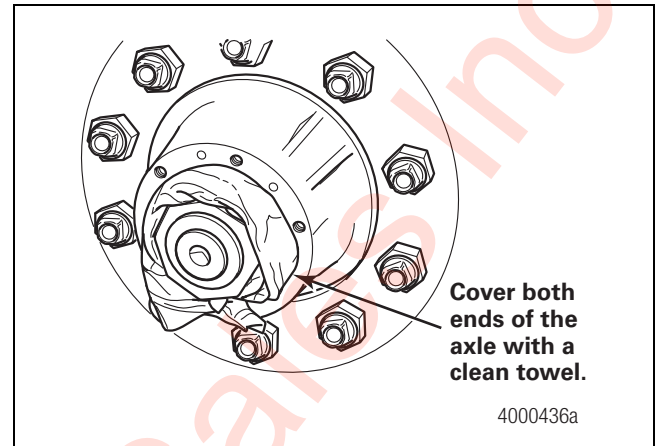

Figure 2.28
3. Cover the wheel ends at both ends of the axle with a clean towel. Figure 2.28.